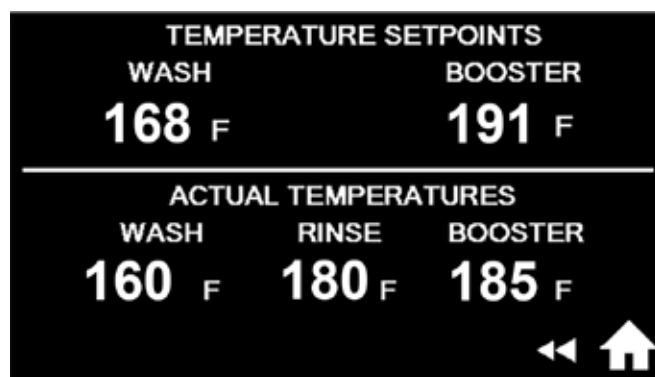

Fig. 67b - Temperature Set points menu
3. Actual Temperatures appear below and indicate the current temperatures during a wash and rinse cycle. These are not adjustable, (Fig. 67b).